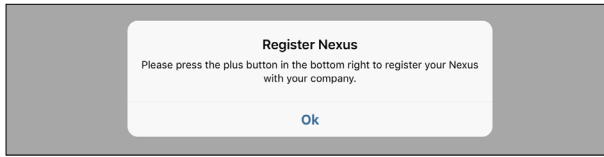

Figure 12 Register NEXUS inquiry window
1. Select **Ok** in the Register NEXUS dialog window (Figure 12).